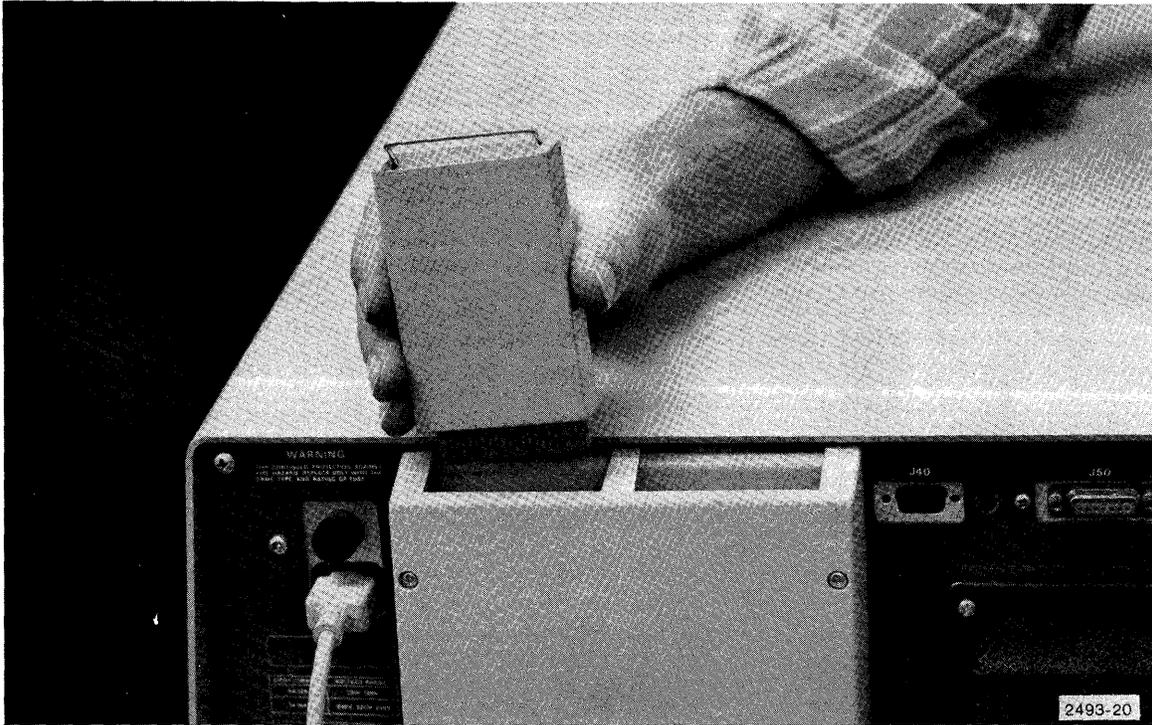

Figure 3-17. Plugging in the ROM pack.
3. Plug the 4907 File Manager ROM pack into any available slot in the 4051 backpack (Figure 3-17) or into a ROM Expander. Be sure the 4051 has been turned off.